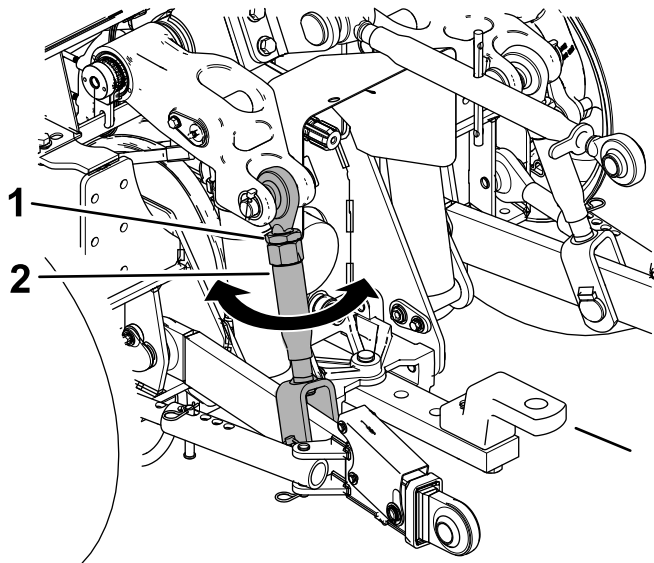

Figure 24
1. Loosen the jam nut on either lift link (Figure 24).
2. Adjust the lift link in or out until the attachment is level (Figure 24).
3. Tighten the jam nut (Figure 24).